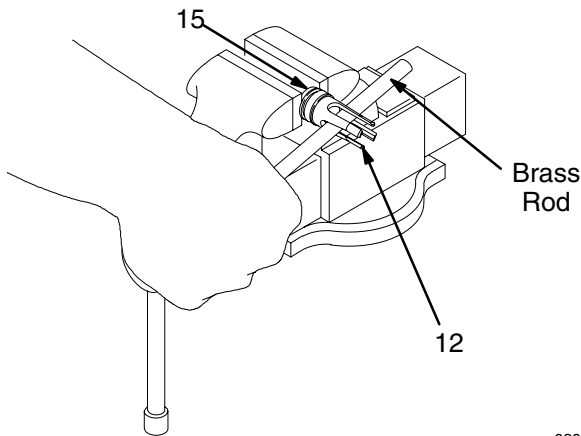

Fig. 5
15. To disassemble the piston guide assembly (V), place the flats of the piston seat (15) in a vise. Close the jaws just tight enough to hold the part; it can be damaged by squeezing it too tightly. Using an 8 mm (5/16 in.) dia. brass rod, unscrew the piston guide (12) from the piston seat (15). See Fig. 5. Remove the piston seal (14); always replace with a new one. Inspect the mating surfaces of the piston (13) and piston seat (15) for nicks, scoring or wear.